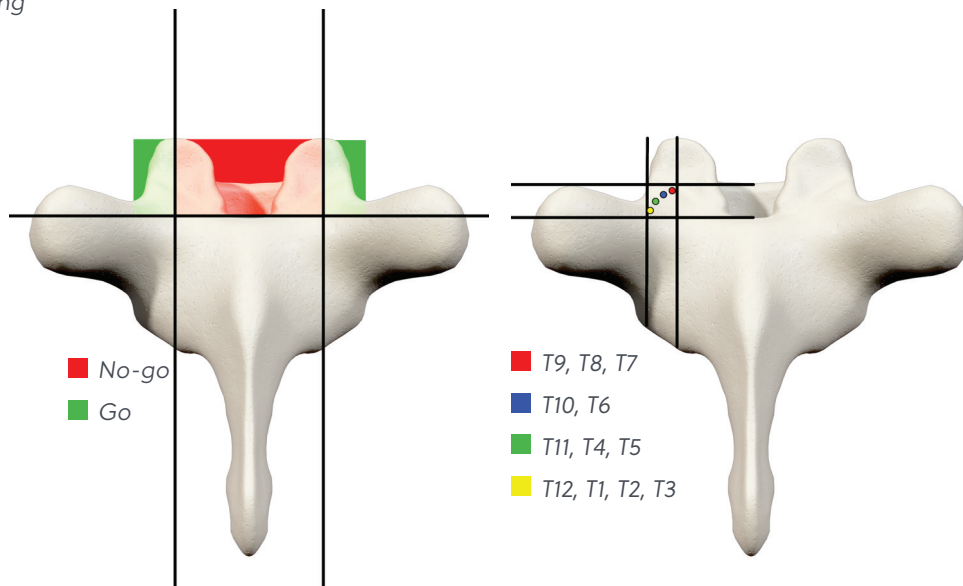

Figure 2
- Using standard anatomic markings, resect a small portion of dorsal cortex to create an entry point for the drill (Figure 2).